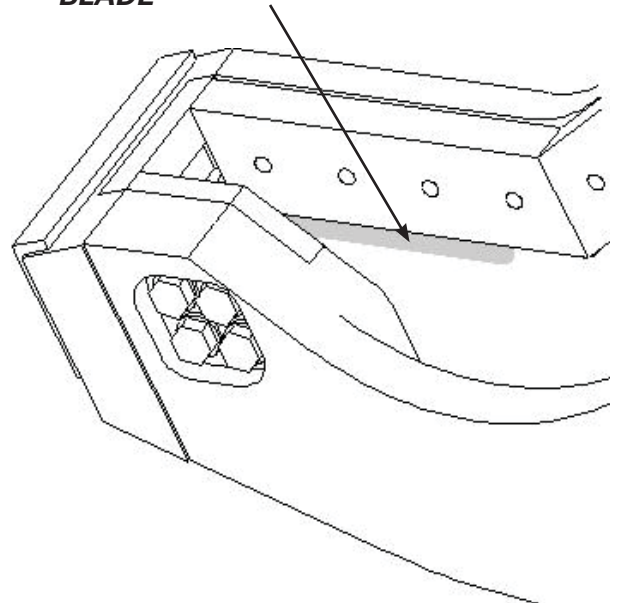

FIGURE 5-37
7. If necessary, build up the area beneath the edge of the secondary blade so it is flush with the blade (see **Figure 5-37**). The blade should not stick out beyond the edge of the seat in this area.